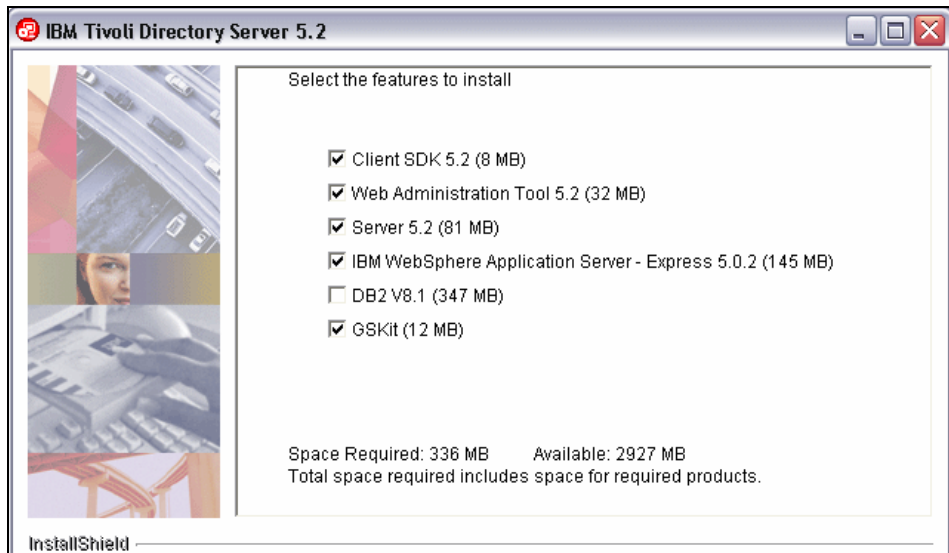

Figure A-40 Tivoli Directory Server: Components
- ▶ Select the components required for the installation (Figure A-40).